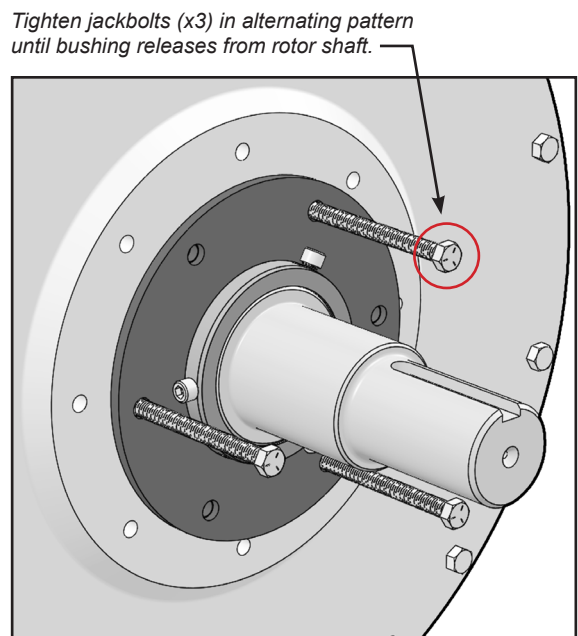

FIGURE 15
16. Tighten the long jack bolts in the puller plate until it bottoms out on the endplate front face (Figure 15).